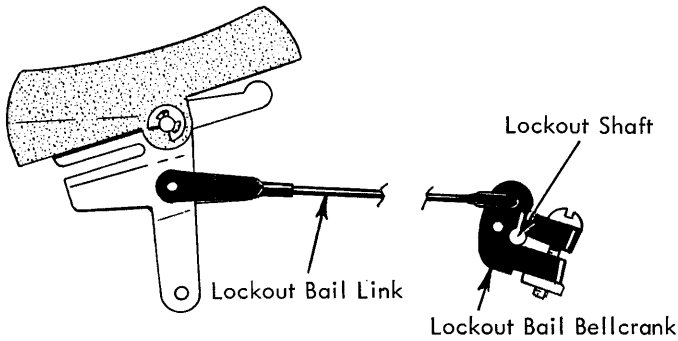
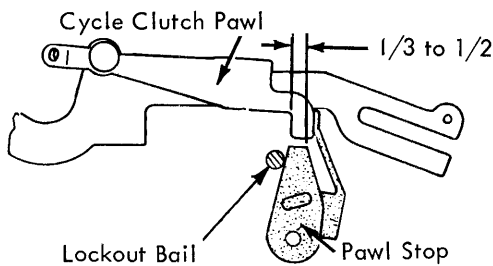

FIGURE 51. Lockout Link
FIGURE 52. Cycle Clutch Pawl Stop
- Lockout Bail Link - Position the clevis approximately half way on the threads of the link (Fig. 51).
3. Lockout Bail Bellcrank - With the On/Off switch in the off position rotate the lockout bail relative to the lockout bail bellcrank (Ref. Fig. 51) so that the cycle clutch pawl stop overlaps the cycle clutch pawl by $1/3$ to $1/2$ (Fig. 52).